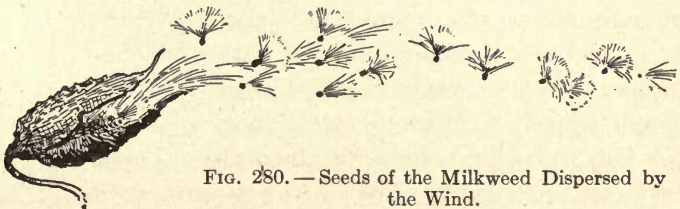

FIG. 280. — Seeds of the Milkweed Dispersed by the Wind.
**Dispersal of Seeds.** — A little observation will disclose to any one a number of ways in which seeds are dispersed. Hold a maple seed high in the air and notice whether it falls directly to the ground or not. What is the value of wings on maple seeds? Some seeds like the dandelion and thistle are provided with little parachutes (**pappus**) which enable the wind to carry them for long distances (Figure 280).